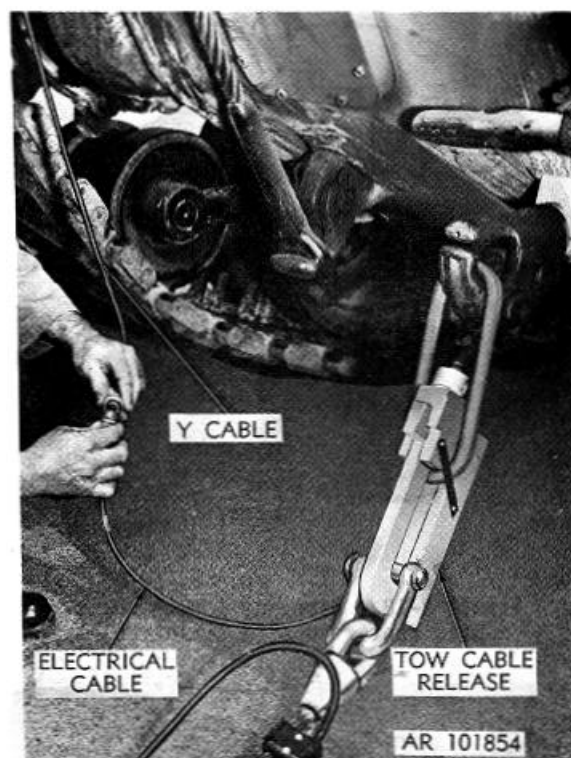

Figure 2-23. Connecting electrical cable to plug on Y cable.
k. Remove shorting plug from electrical cable of tow cable release. Remove protective cap from unconnected plug on the "Y" cable. Connect these color-matched connectors (fig. 2-23).